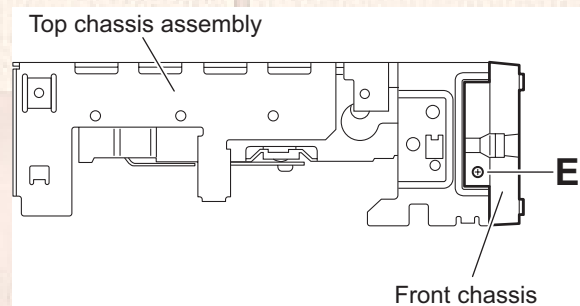

Fig.7
3.1.4 Removing the front chassis (See Figs.7 and 8)
- (1) From the both sides of the top chassis assembly, remove the two screws **E** attaching the front chassis. (See Figs.7 and 8)
- (2) Take out the front chassis